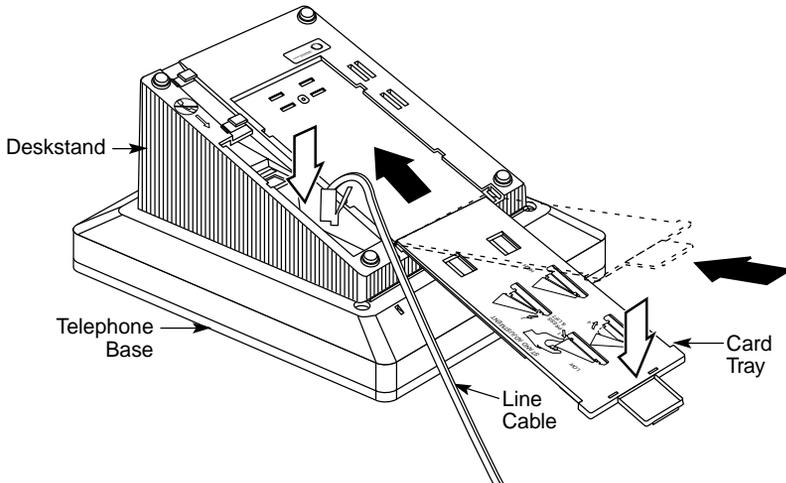

Figure 3-17. Replacing the User Card Tray and Line Cable
- ▶ 10. Replace the user card tray and line cable. See Figure 3-17.